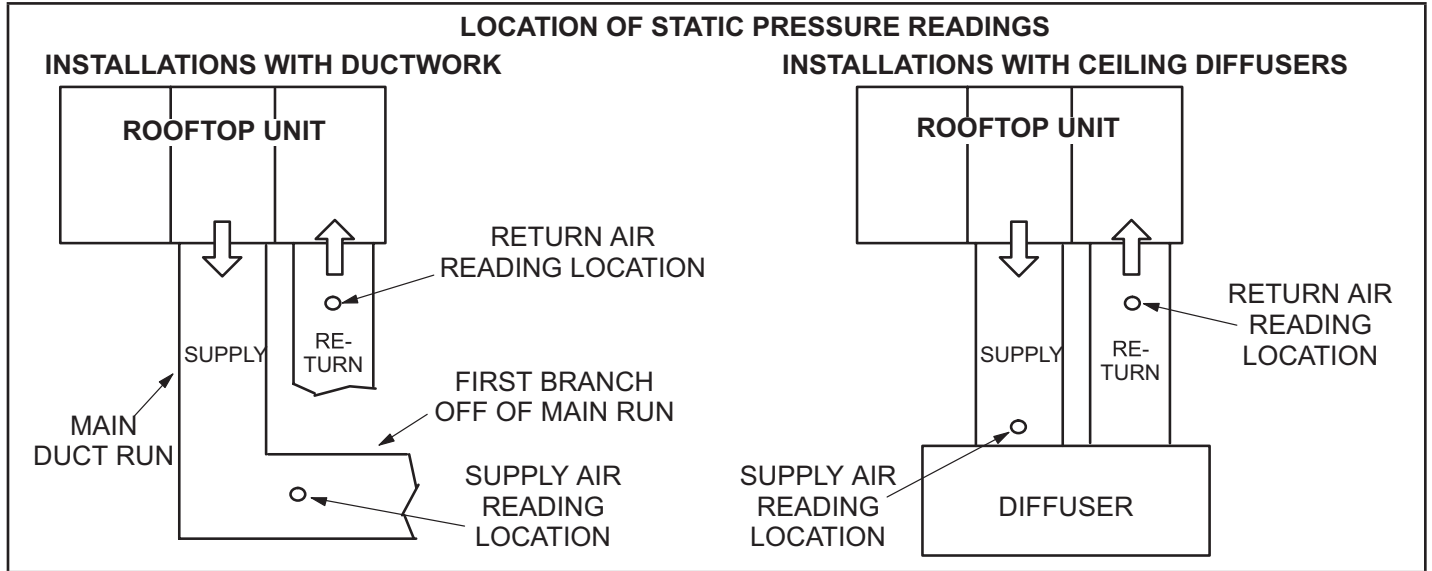

FIGURE 17
- 2 - With all access panels in place, measure static pressure external to unit (from supply to return). Blower performance data is based on static pressure readings taken in locations shown in FIGURE 17.